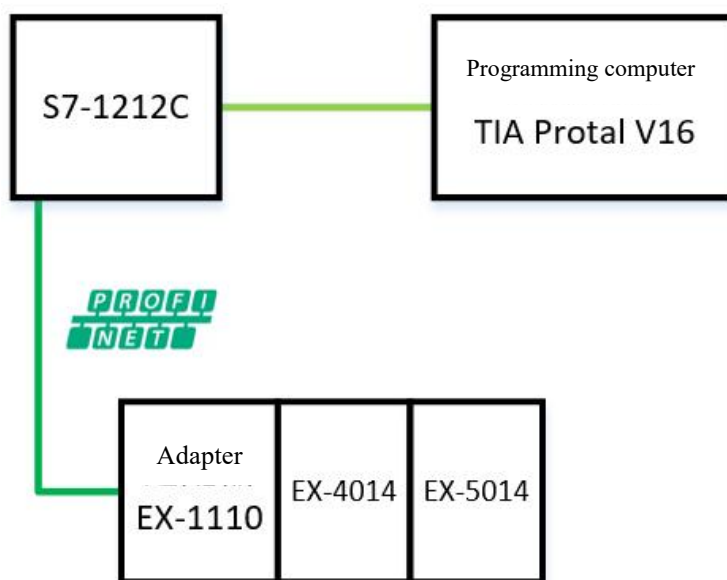

Figure 5-2-1 Communication connection diagram
1. Communication connection diagram, as shown in Figure 5-2-1.